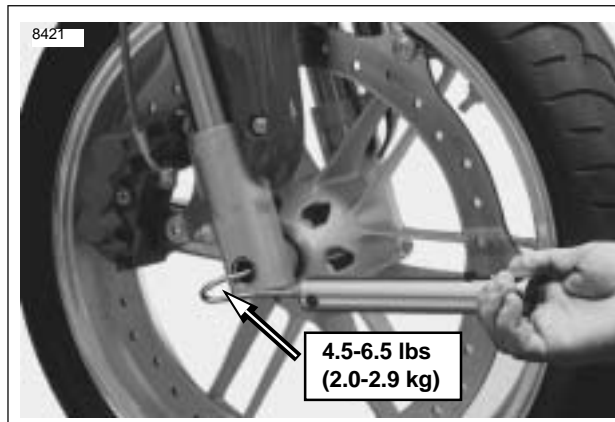

Figure 1-43. Measuring Steering Head Bearing Resistance
6. See Figure 1-43. Hook a spring scale into the hole in the front axle. With scale 90 degrees from fork leg, pull front wheel to center position.
7. See Figure 1-43. Hook a spring scale into the hole in the front axle. With scale 90 degrees from fork leg, pull front wheel to center position.